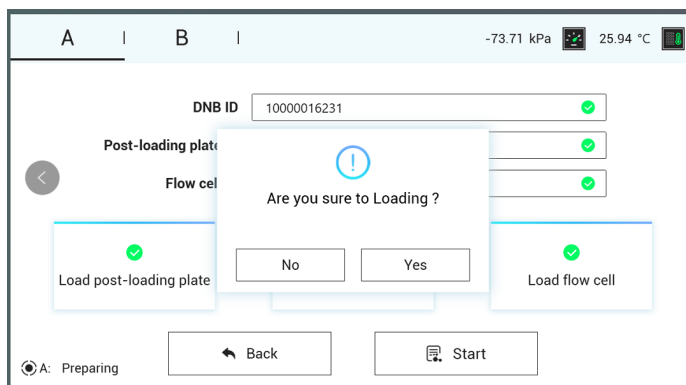
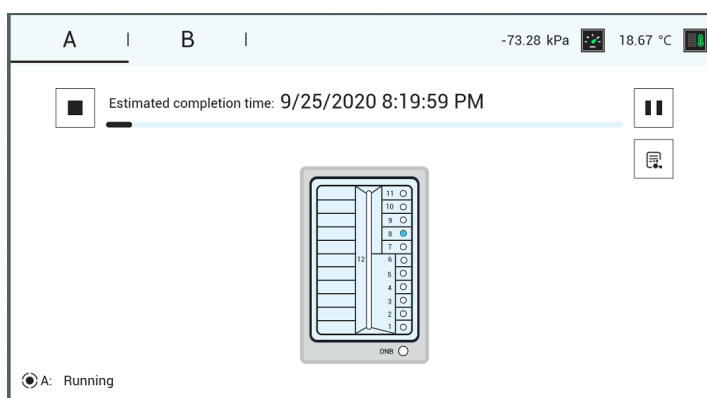

Figure 10 MGIDL-T7RS loading confirmation dialog box
Figure 11 MGIDL-T7RS flow cell loading interface
15. Tap the **Start** button and select **Yes** as shown in the Figure 10 on Page 51. Flow cell loading starts as shown in the Figure 11 on Page 51.